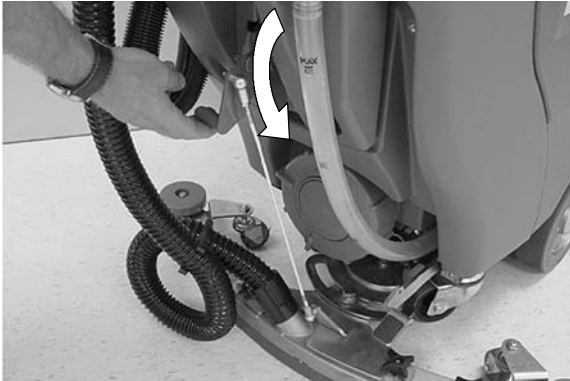

FIG. 18
3. Lower the squeegee assembly to floor by lowering the squeegee lift lever (Figure 18). The vacuum motor will automatically turn on.